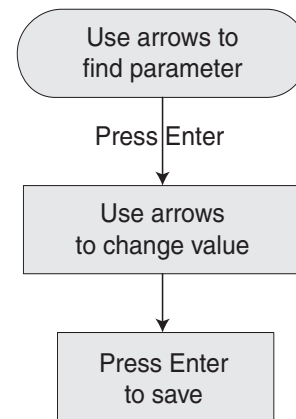

Figure 8-11: Changing parameter value
- ◆ Press Main Menu and follow the keypress sequence shown in Figure 8-11. Be sure to press ENTER to save the new Max Frequency selected. The Intellidrive will now use the new value selected.
The password locks or unlocks the blue buttons on keypad (Figure 8-2). All Intellidrive units are shipped from factory with the default password 7777. It can be changed to any other 1 to 4 digit number. To reset password to a unique password for unit, unlock keypad and follow the keypress sequence (Figure 8-11) to make the change.